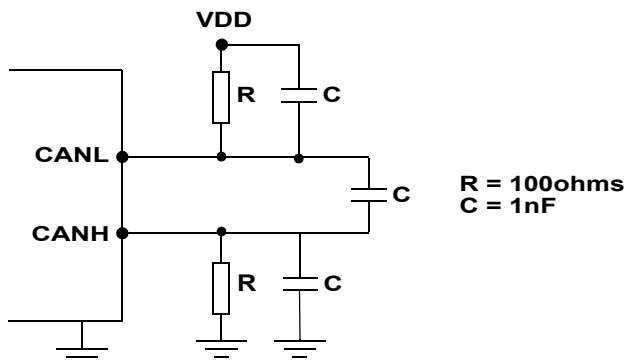

Figure 5. Test Circuit for AC Characteristics
26. AC Characteristics measured according to schematic Figure 5
27. AC characteristic according to ISO11898-3, tested per figure 5 and 6. Guaranteed by design, room temperature only.